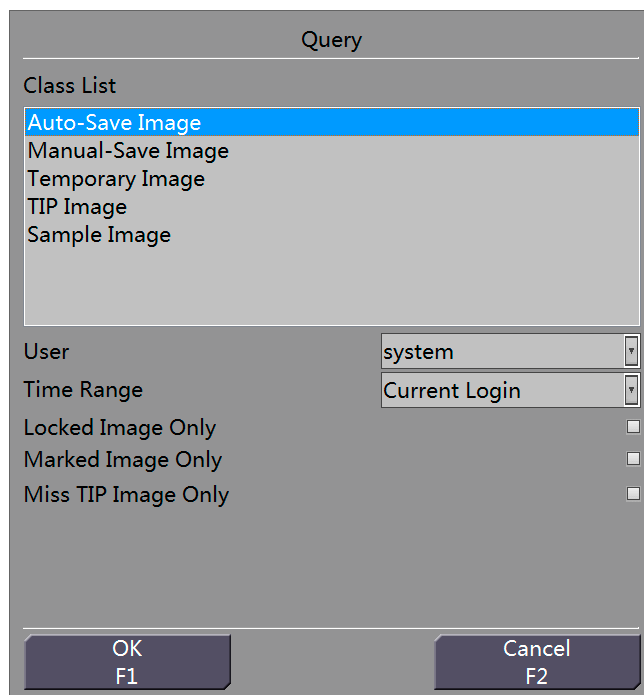

Figure 14-2 Image Querying Interface
Step 2 Click “Query” on the Image Management interface to display a dialog box, as shown in Figure 14-2.
Step 3 Select the class of image to query from the Class List on the interface shown in Figure 14-2.